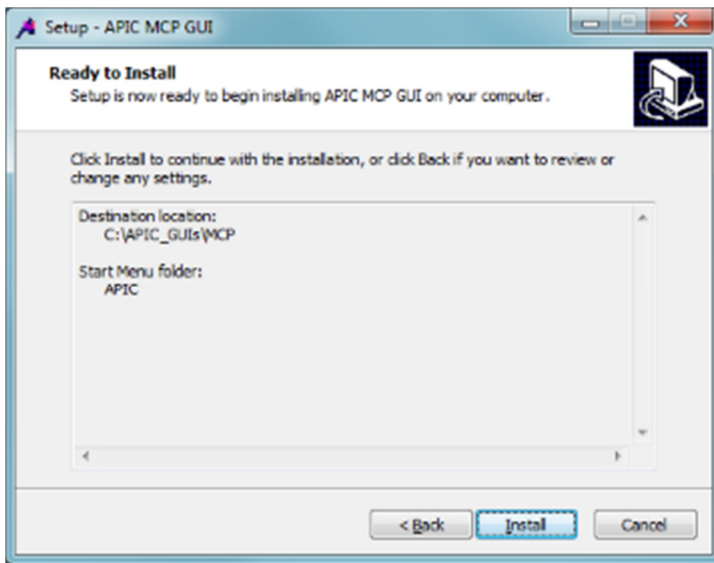

Figure 5 - Summary of MCP Installation Options
- The summary screen illustrated in **Figure 5**, allows you to review the chosen options prior to installing the software. Clicking Install will install the program with these options.